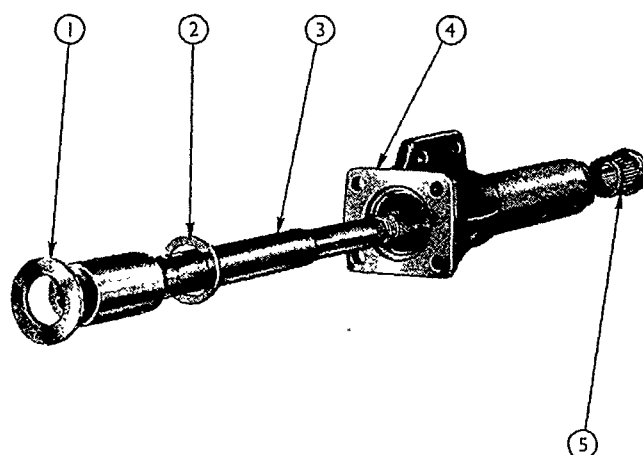

Figure 9
6. Withdraw the steering shaft, Figure 9, from the shaft housing and remove the upper thrust washer and upper bushing and mount assembly.